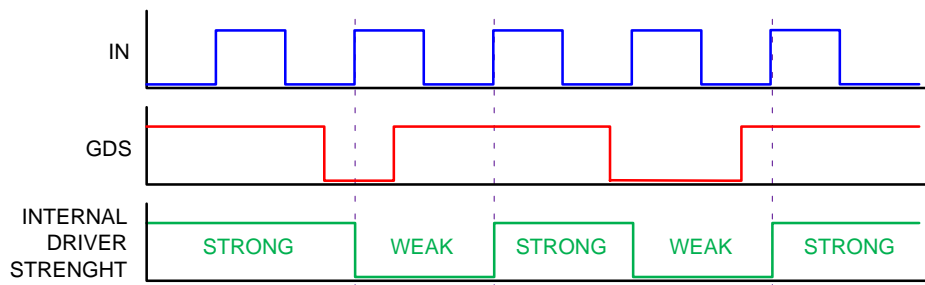

Figure 41. GDS Input Timing Behavior
that may come from high-speed switching. If GDS feature is not needed and driver strength should be set to high level, then it's better to pull-up GDS pin to VDD via low impedance $< 100 \Omega$ – same approach as in case of EN pin. The NCP58922 GDS feature is dedicated for accompanying device with Active Clamped Flyback controller NCP51568. In a such implementation is GDS input controlled based on NCP51568 FB signal, which sets “Low Driver Strength” for low FB levels (during burst mode or light-load mode) and “High Driver Strength” for power level, that pushes FB signal level above high threshold. GDS Input is level sensitive, and its proper level must be set approximately 15 ns before PWN (IN) signal edge comes. Once driver strength is confirmed by PWM rising edge, its level is kept until next PWM rising edge is introduced. GDS signal does not have any impact during mid-cycle change or after active level cycle change. GDS Input timing dependency is depicted in Figure 41.